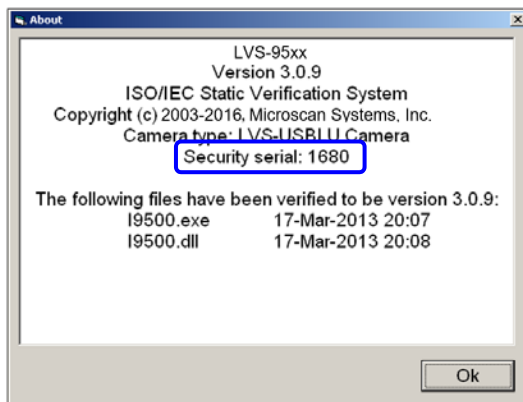

Figure 31: Security Serial Number
43. Locate the Security Serial number (Figure 31) and provide this number to an Omron Microscan distributor or Omron Microscan Headquarters via e-mail or phone.